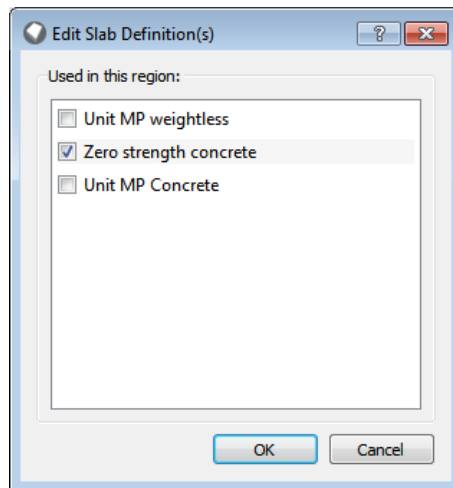

Figure 3.14: Changing the Slab Definition used on a Boundary
2. Select one or more boundaries using the mouse (hold CTRL or use the **Rectangle select** for multi-selection). In the **Property Editor**, click the right-hand field next to the **Slab Definition** and select the **Change...** button that appears. A dialog will be shown (as depicted in Figure 3.14) which allows you to change the definition.